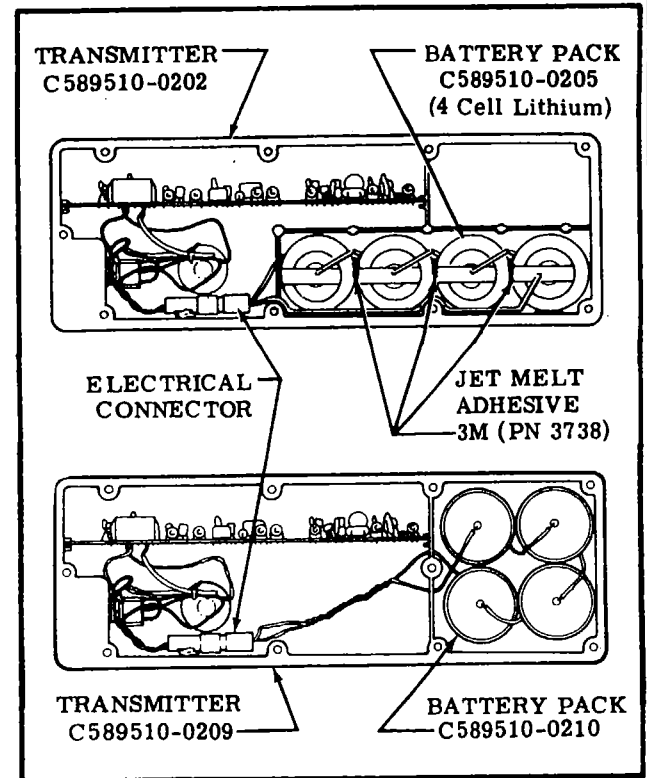

Figure 16-16. Lithium 4 Cell Battery Pack Installations
d. When replacing a 6 cell magnesium battery-pack with a 4 cell lithium battery-pack, merely disconnect the old battery-pack and replace with a 4 cell battery-pack, as shown in figure 16-16.
16-69. REMOVAL AND INSTALLATION OF LITHIUM FOUR (4) CELL BATTERY-PACK. (Refer to figure 16-16.)
d. Place new battery-pack in the transmitter with four batteries as shown in the case in figure 16-16.
e. Connect the electrical connector as shown in figure 16-16.